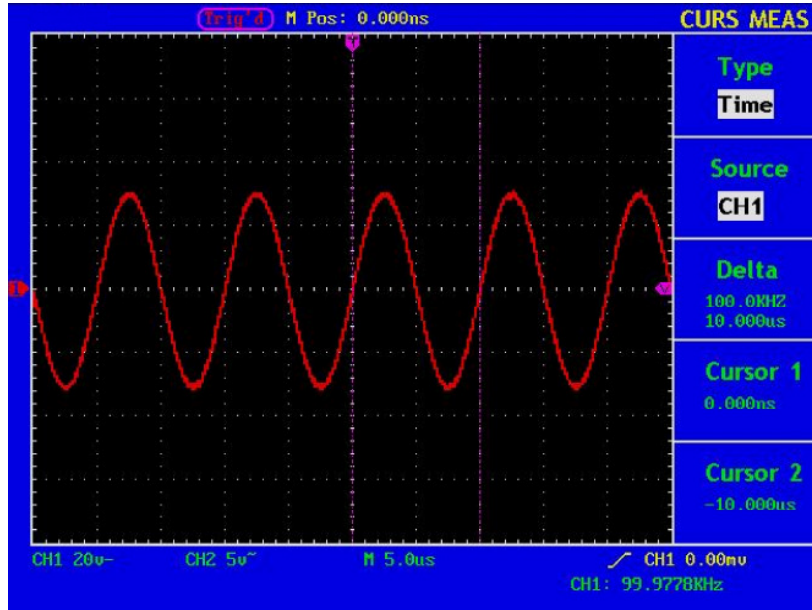

Fig. 68 Wave Form of Cursor Measurement
4. Adjust the positions of **CURSOR1** and **CURSOR2** according to the measured waveform, with the period and frequency of Cursor1 and Cursor 2 displayed in the increment window. The current position of Cursor1 is displayed in the Cursor1 window and that of Cursor2 is displayed in the Cursor2 window (see Fig. 68).